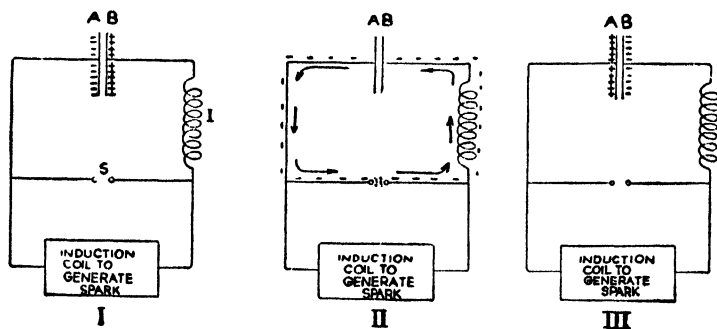

FIG. 316.—The old fashioned spark-transmitter.
rush backwards and forwards from 30,000 to 3,000,000 times a second, is the old-fashioned spark transmitter. Fig. 316 shows it in a very simple form. Wireless waves are generated by an electron moving back and forth along a wire. The frequency of the wave depends on the time of travel.
Suppose the induction coil is set to work. It crowds electrons into the left-hand side of the apparatus and draws them out of the right-hand one. The attraction of the positively charged plate (B) of the condenser assembles a great multitude of electrons on the negative plate (A) (Fig. 316, I). As the electrons accumulate on the left, a time comes when their mutual repulsion is too great and they leap the spark gap and rush round the wire to B. (Fig. 316, II). But, just like a pendulum falling, they over-reach themselves and pile up at B (Fig. 316, III). They then repel each other as badly as before and so rush back across the spark gap to A. The electrons thus rush back and forth along the wire and, in doing so, will generate a wave. Now, the frequency of this wave will depend on the number of journeys the electrons will do each second, i.e., on the time between successive journeys from A to B.